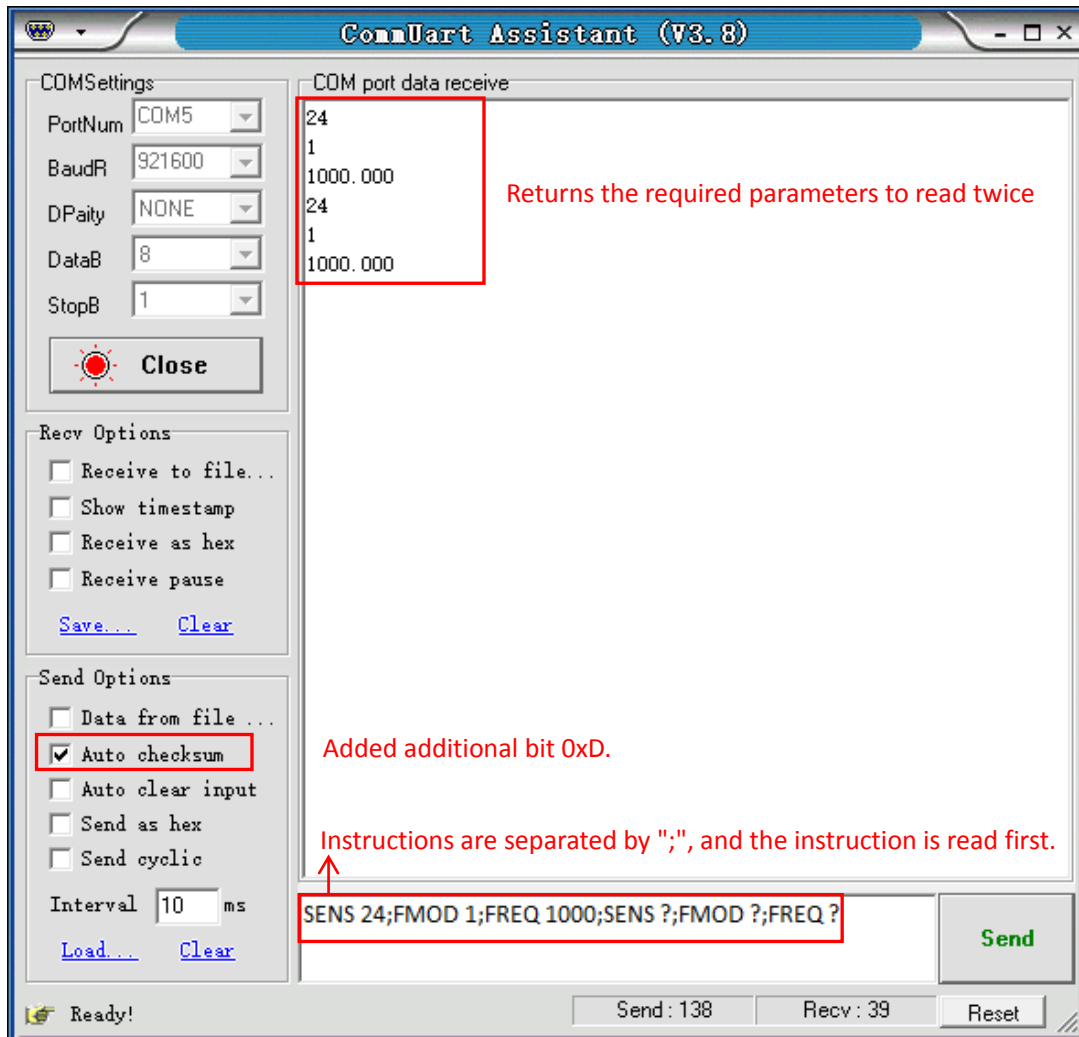

Fig.112 The execution of multiple instructions
3) Multiple instructions need “;” to separate each other, such as “SENS 24;FMOD 1;FREQ 1000;SENS ?;FMOD ?;FREQ ?” like Fig.112.